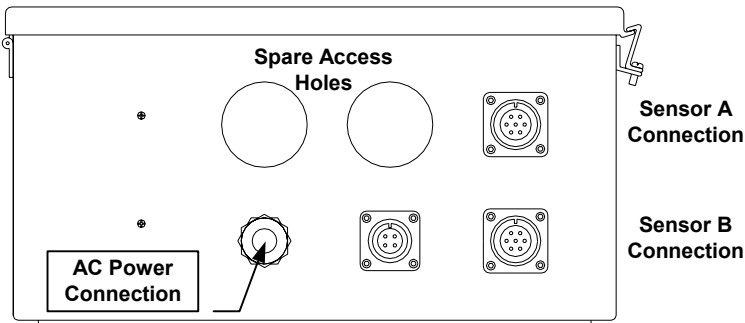

Figure C.4-15: Emitter Connections to Processing Unit
No matter which application the sensor is targeted for, the sensor connects to the processing unit in the same fashion. Single-sensor systems connect to the top-right circular bulkhead on the bottom panel of the processing unit. Dual-sensor systems connect one sensor (Sensor A) to the top-right circular bulkhead and the second sensor (Sensor B) to the bottom-right bulkhead {Figure C.4-15} on the bottom panel of the unit.
- 3) If the application is a single-sensor system, connect the emitter cable with the female 7-pin MS-style circular connector to the emitter 7-pin MS-style circular bulkhead. Then connect the male 7-pin MS-style circular connector to the upper-right 7-pin MS-style circular bulkhead on the bottom panel of the processor and tighten securely {Figure C.4-15}.